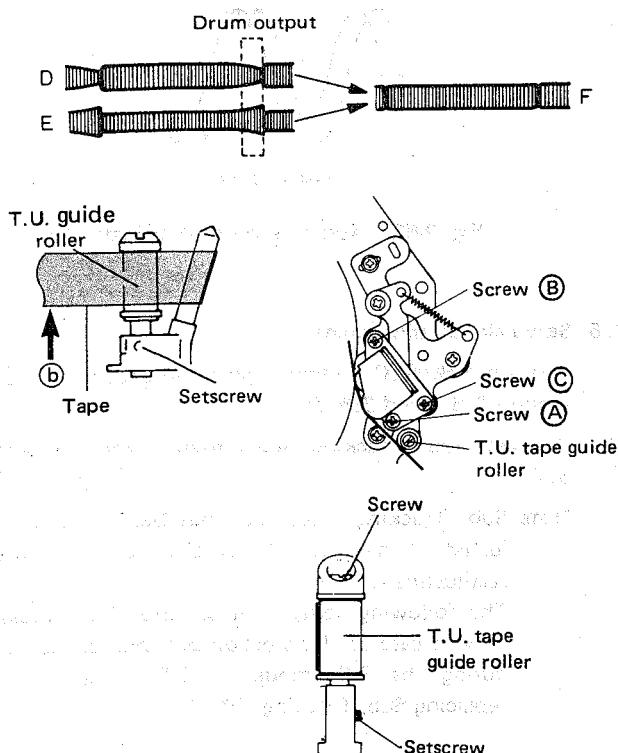

Fig. 2-46 Drum output adjustment
7. In the same manner as for the drum input, turn the take-up guide roller to adjust the decay portion (drum output portion) of the FM waveform. Incorrect examples are shown by D and E in Fig. 2-46, while F indicates the correct adjustment.
8. Observe the top edge of the tape travels along the lower face of the upper flange and check the waveform does not fluctuate as the tape is lightly pushed up at (b) as shown in Fig. 2-46.